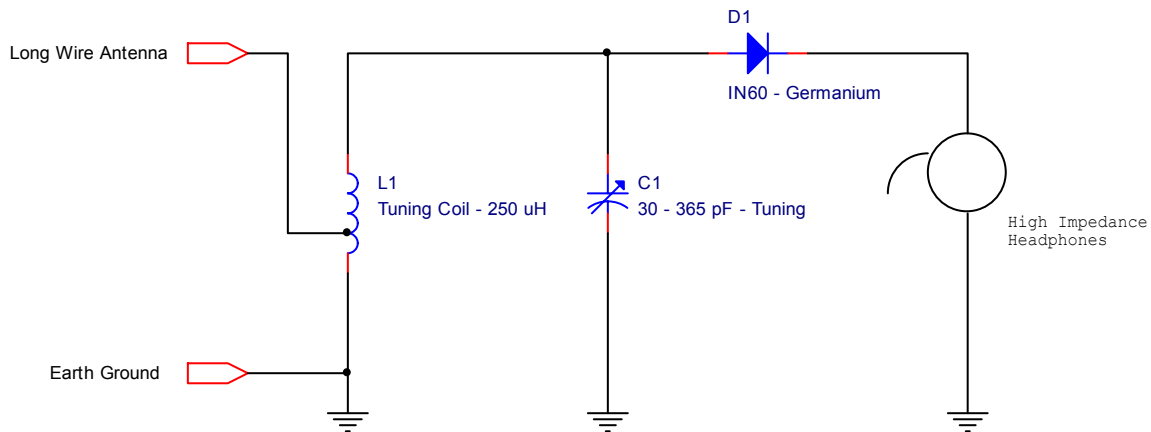

Figure 5-2 A crystal radio receiver
These are the basic steps a receiver needs to perform. In simple radio receivers, some of the tasks can be omitted. For example, you may have built a *crystal radio receiver*. A crystal receiver uses only the energy from the incoming radio wave to produce the sound. A long wire antenna is usually required in order to receive sufficient signal. Figure 5-2 shows the schematic of one type of crystal receiver. There are thousands of different possible crystal receiver designs. Many active enthusiast groups build and study these simple receivers.
There isn't much to the circuit of Figure 5-2! A *long wire* antenna is connected to the upper input terminal. (A length of wire 50' or longer will work well.) The *earth ground* terminal must be connected to a good earth ground in order to provide an AC return path for the antenna signal. (A ground rod, or metallic cold water pipe could be used.)
What is the approximate tuning range of the receiver of Figure 5-2?
- 5-4 What steps of reception are performed in the circuit of Figure 5-2?
- 5-6 How does the end user control the frequency of the bandpass filter in the receiver of Figure 5-2?